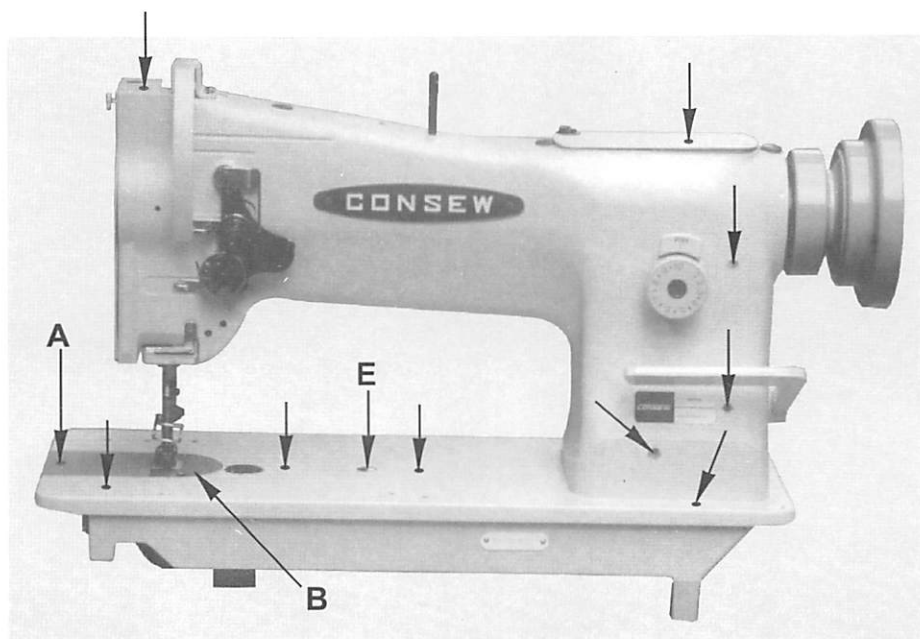
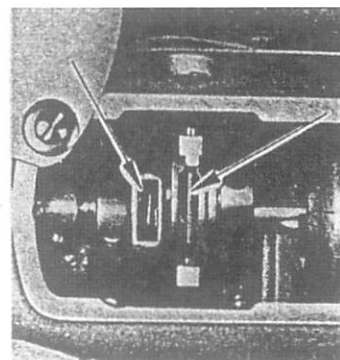

Fig. 2
Fig. 6
(Fig. 2 ~Fig. 6 )
1. Lift the needle bar to its highest point, place the feed dog at this side in its travel turning the machine pulley, and open the slide plate (A, Fig.2)
If it should become necessary to re-engage the safety clutch, depress button (E, Fig. 2) in the bed plate of the machine. At the same time, turn machine pulley until the locking mechanism re-engages the drive shaft beneath the bed of the machine. Open bed slide plate and rock the machine pulley back and forth to remove any foreign matter which may have lodged itself in the hook. Do not use any sharp-edged tools, etc., lest the hook be damaged.